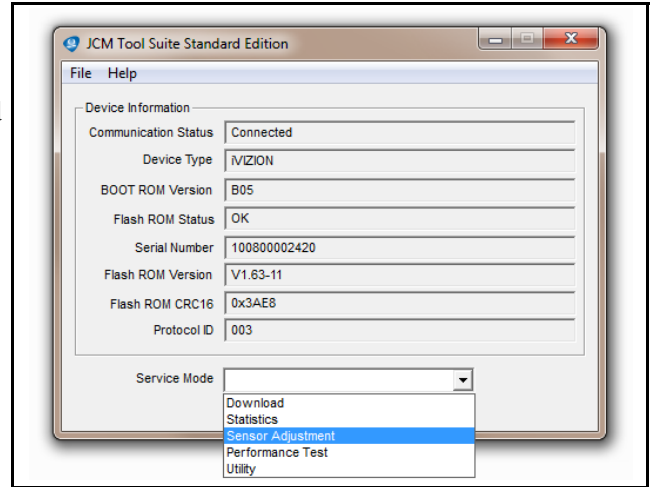

Figure 1: JCM Tool Suite Application (v1.18)
6. Click to select "Sensor Adjustment" in the **Service Mode** drop-down window (Figure 1).